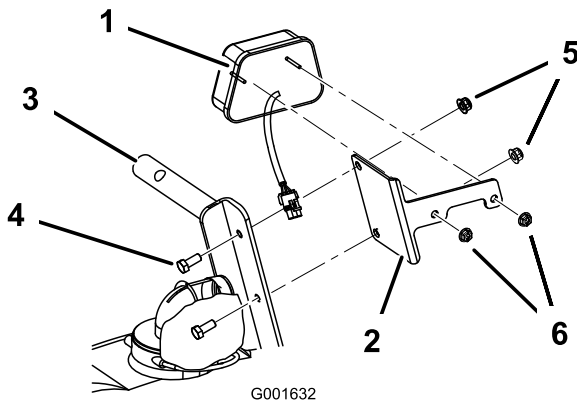

Figure 8
1. Install the tail light bracket to the left side boom support with 2 bolts (5/16 x 3/4 inch) and 2 flange nuts (5/16 inch) (Figure 8).
2. Install the tail light to the tail light bracket with 2 nuts (1/4 inch) (Figure 8).